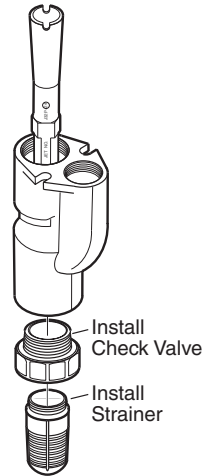

Figure 5
6. Install the check valve and strainer on the single-port end of the ejector (the bottom of the ejector - See Figure 5).